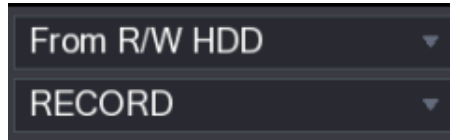

Figure 5-99
- **From R/W HDD:** Recorded videos or snapshots playback from HDD of the Device. See Figure 5-99.